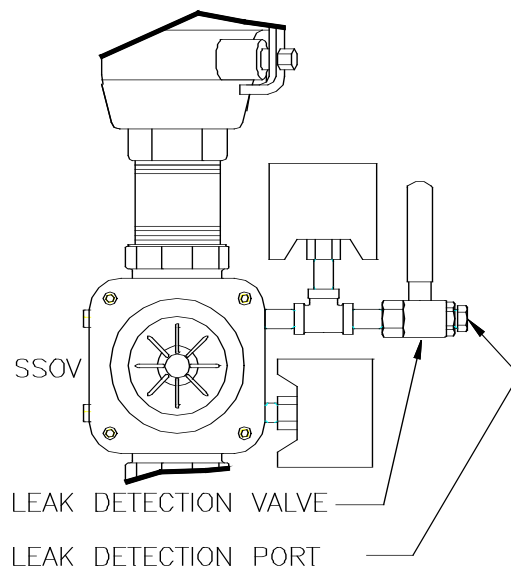

Figure 6.3
2. Once the unit is firing, close the manual leak detection valve. This is the valve located between the safety shut off valve and the differential gas pressure regulator (See Fig. 6.3).